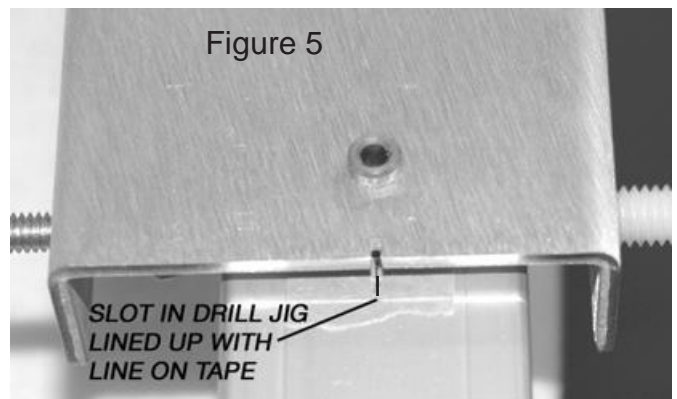

Figure 5
- 4- Place the Drill Jig over the ski, with the center of the front drill bushing located on the perpendicular line. Using the yellow thumb screws, adjust the Drill Jig until the 2 notches at both ends of the drill jig are lined up with the center line as shown in Figure 5. Tighten the two smaller thumb screws so the Jig is firmly located.